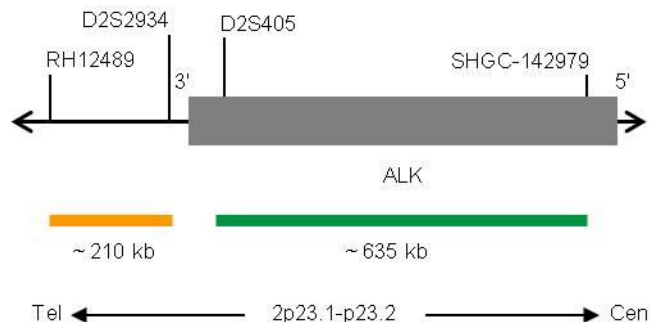

Fig. 1: SPEC ALK Probe map (not to scale)
- ZyGreen (excitation 503 nm/emission 528 nm) labeled polynucleotides (~10 ng/ $\mu$ l), which target sequences mapping in 2p23.1-p23.2\* (chr2:29,460,144-30,095,822) proximal to the ALK breakpoint region (see Fig. 1).
- ZyOrange (excitation 547 nm/emission 572 nm) labeled polynucleotides (~4.5 ng/ $\mu$ l), which target sequences mapping in 2p23.2\* (chr2:29,174,204-29,383,335) distal to the ALK breakpoint region (see Fig. 1).